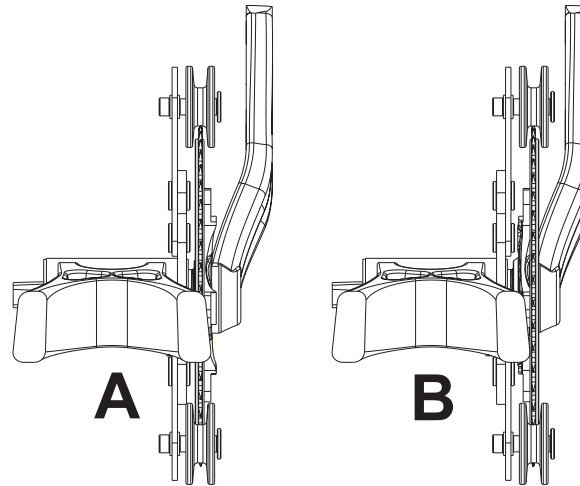

Figure 2. Rear Views of Drive Side
**Please Note:** The guide arms can be placed on either side of the fixture plate to allow for different chainring placement. Below in **Figure 2**, the arms are shown in both configurations. In view **A** the chainring is placed on the inside of the spider and the guide arms are placed to the inside of the fixture plate. View **B** the chainring is placed to the outside of the spider and the guide arms are placed to the outside of the fixture plate.